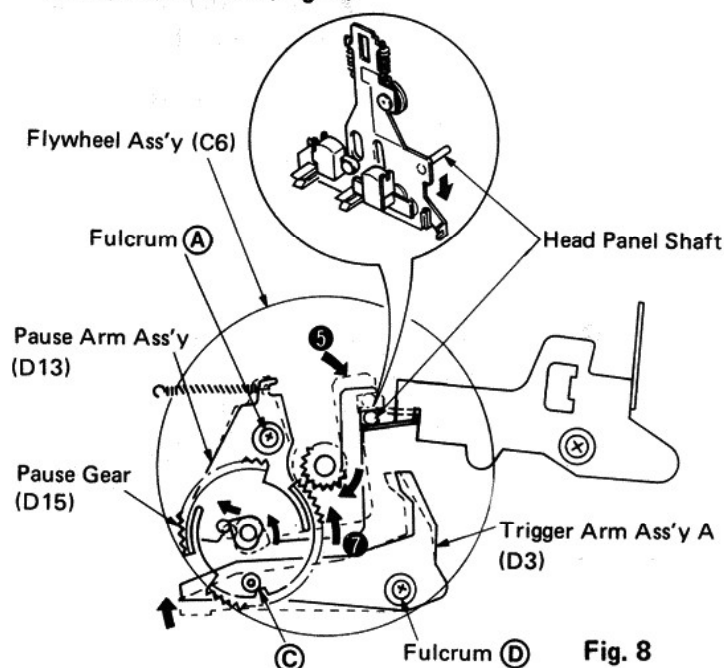
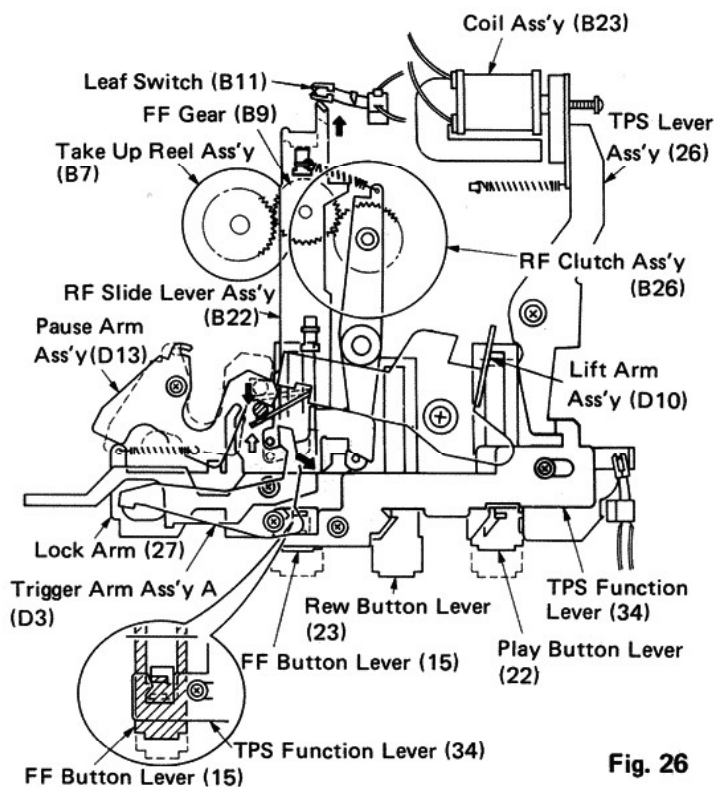
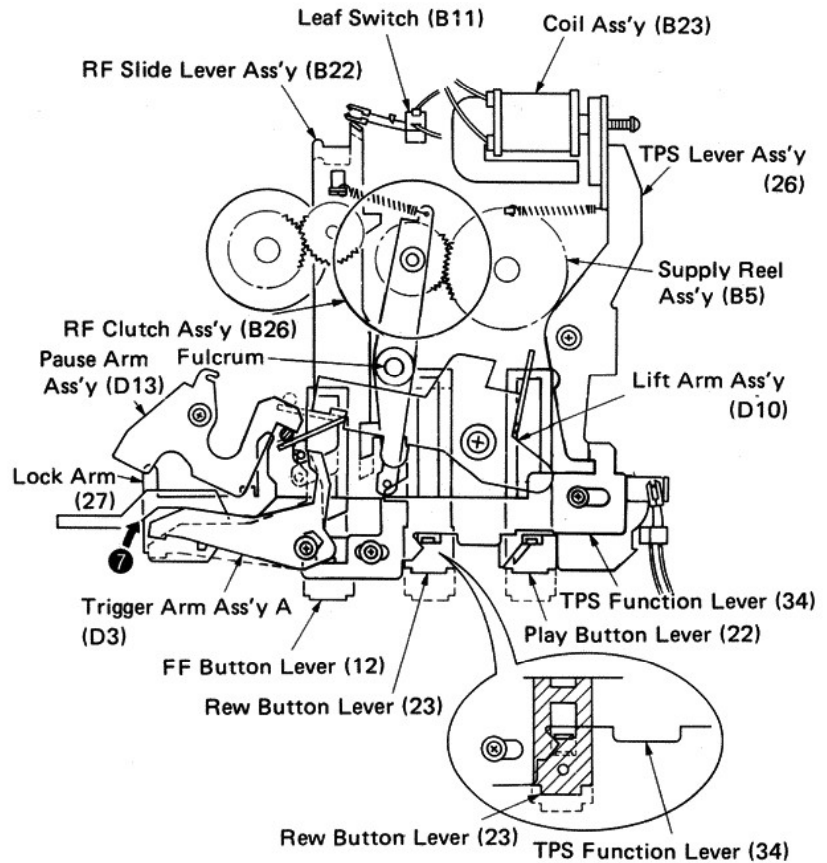

Fig. 8
Fig. 26
Fig. 28
- 3 When the pause gear (D15) rotates in the ⑦ direction, the pause arm assembly (D13) rotates around the fulcrum ① in the ⑤ direction. Hence the head panel shaft (namely the head panel) makes a backward motion. (Fig. 8)
• Status Change into FF TPS Mode: (Fig. 26)
- 2 When the leaf switch (B11) turns on, the tape output is muted. Since current flows in the coil assembly (B23), the TPS lever assembly (26) and the TPS function lever (34) are held. Consequently the FF button lever (15) maintains the pressed condition.
- 3 On the other hand the forward movement of the RF slide lever assembly (B22) makes the trigger arm assembly (D3) move clockwise. Since this motion is the same as the pause button lever (21) being pressed (as shown in Fig. 8), the pause arm assembly (D13) pushes the head panel shaft as a result and the entire head panel is made to move backward.
- 4 The gear of the RF clutch assembly (B26) meshes with the FF gear (B9) by the effect of the FF button lever (15). This gear coupling is further interlinked with the gear of the take-up reel assembly (B7). Thus the take-up reel rotates to assume an FF TPS condition. (Fig. 26)
- **Status Change into REW TPS Mode: (Fig. 28)**
- 2 When the leaf switch (B11) is turned on, the tape output is muted. Since a current flows in the coil assembly (B23), the TPS lever assembly (26) and the TPS function lever (34) are held. Consequently the rewind button lever (23) maintains the pressed condition.
- 3 On the other hand the forward movement of the RF slide lever assembly (B22) makes the trigger arm assembly A (D3) move in direction ⑦. Since this motion is the same as the pause button lever (21) being pressed (as shown in Fig. 8), the pause arm assembly (D13) pushes the head panel shaft as a result and the whole head panel is made to move backward.
- 4 The gear of the RF clutch assembly (B26) meshes with that of the rewind button lever (23) and the mechanism assumes the REW TPS mode. (Fig. 28)